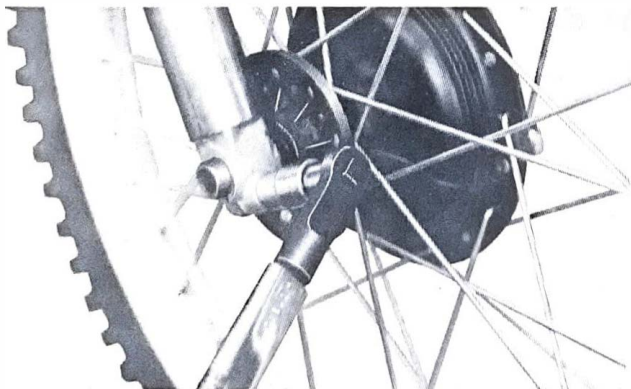

Fig. 18
- (4) Tighten the axle pinch bolt with specified torque. (Fig. 18)